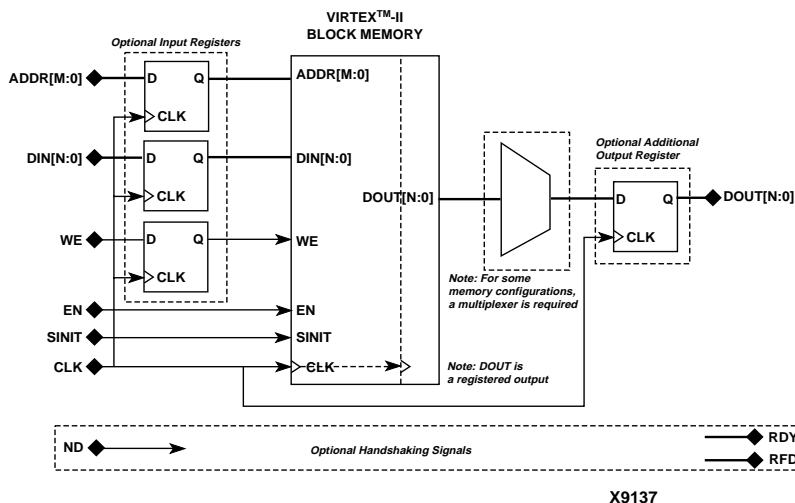

Figure 4: Single Port Memory Block Diagram
- **Register Inputs:** Check this box to register ports DIN, ADDR, and WE prior to accessing block memory. See Figure 4.
- **Additional Output Pipe Stages:** Select “1” to enable an additional register on the output of the memory; select “0” to disable an additional register on the output of the memory. See Figure 4.